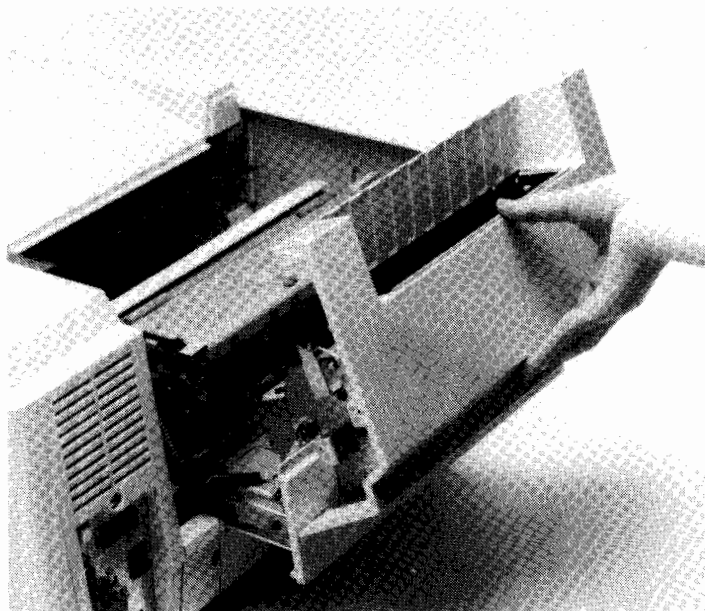

Figure 4-10. Opening Paper Exit Cover
- b. Open the paper exit cover (figure 4-10).